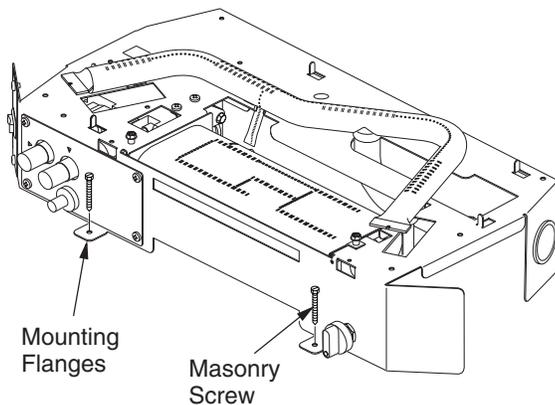

Figure 12 - Attaching Base Assembly to Fireplace Floor (Base Assembly Will Vary According to Model)
7. Mark screw locations through one hole on each side of the mounting bracket (see Figure 12). If installing in a brick-bottom fireplace, mark screw locations in mortar joint of bricks.